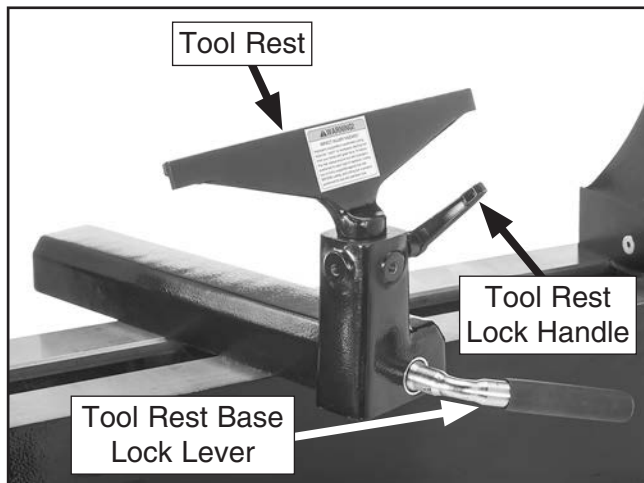

Figure 31. Tool rest controls.
1. Loosen tool rest base lock lever and move tool rest assembly to desired position on lathe bed, as shown in **Figure 31**.
3. Loosen tool rest lock handle (see **Figure 31**).